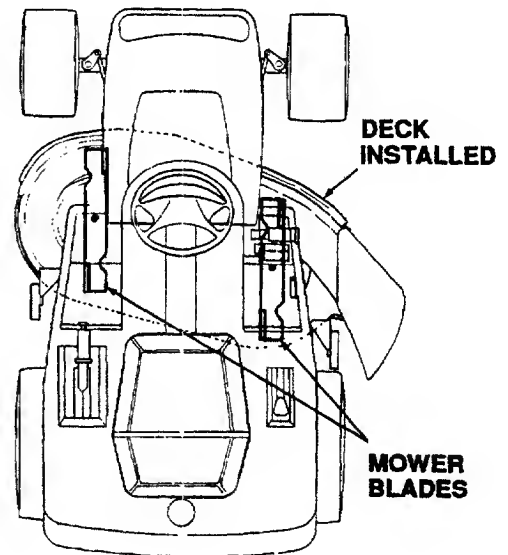

**Figure 30**
8. Side-to-side leveling is obtained utilizing the adjustment ferrule and left hand hanger bracket. (Refer to Figure 30.)
9. Loosen upper jam nut on hanger bracket. Turn lower lock nut clockwise to raise left side of mower deck. Turn lock nut counterclockwise to lower left side of mower deck. (Refer to Figure 30.)